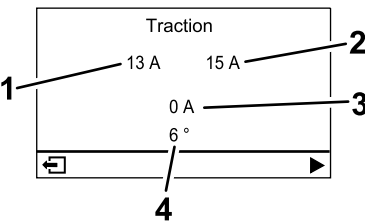

Figure 23
- **Traction motor screen (Figure 23):** shows the current steering angle and the amperage allotted to each traction motor.